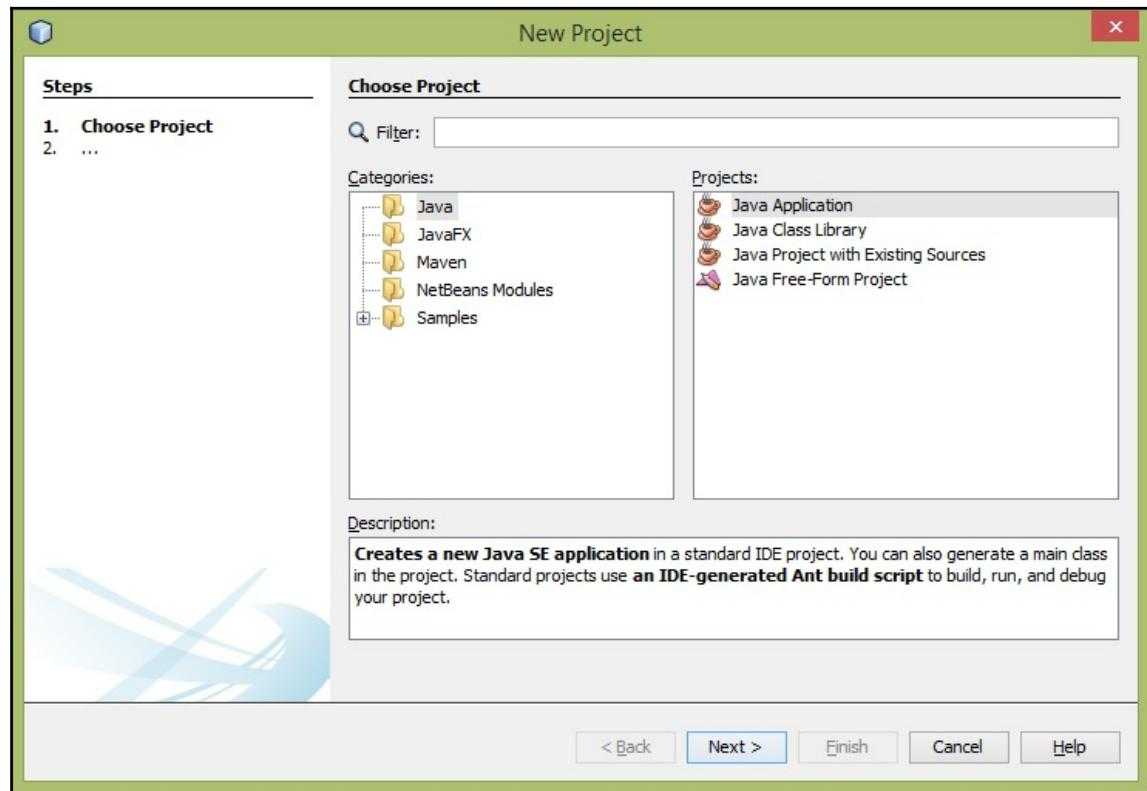

Figure 3-17: Choose project
1. Open your NetBeans IDE, and in the menu bar click **File | New Project** (Figure 3-17). The **New Project** wizard will open with Step 1, then choose **Project**. Under the **Categories** tree view, click **Java** and under the **Projects** list view, click **Java Application**. Then, click the **Next** button to move to step 2: